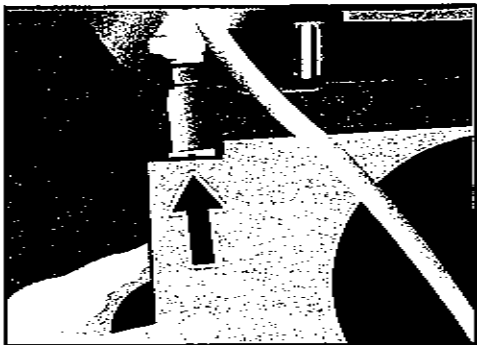

Fig.37
3. Position the external water tank on the support tray, making sure the quick connect on the water tank is aligned with the factory installed quick connect at the back of the cabinet. See Fig.37